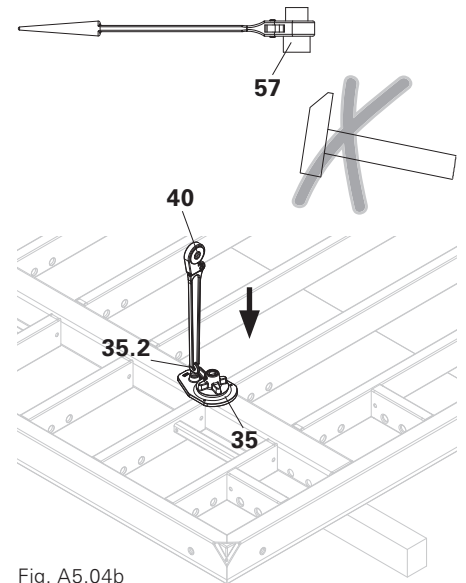

Fig. A5.04b
- Fix Swivel Nut MX 18 to the primary formwork by means of the ring spanner (35.2). Use Tie Rod Spanner (40) or scaffold ratchet (57)! (Fig. A5.04b)